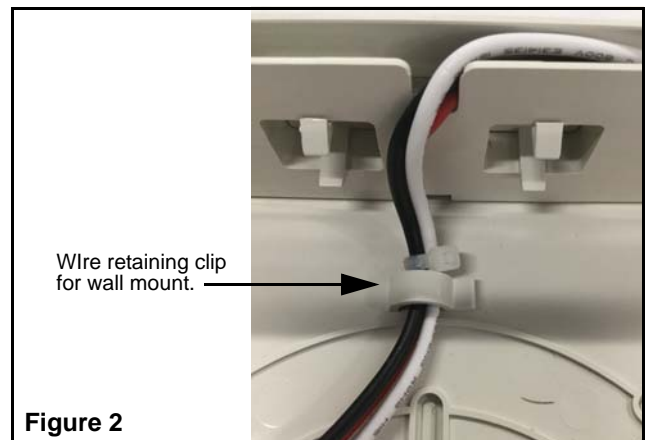

Figure 2
- b. Secure wires using wire retaining clip located on back plate and feed AC supply leads out through the center hole (fig. 2).